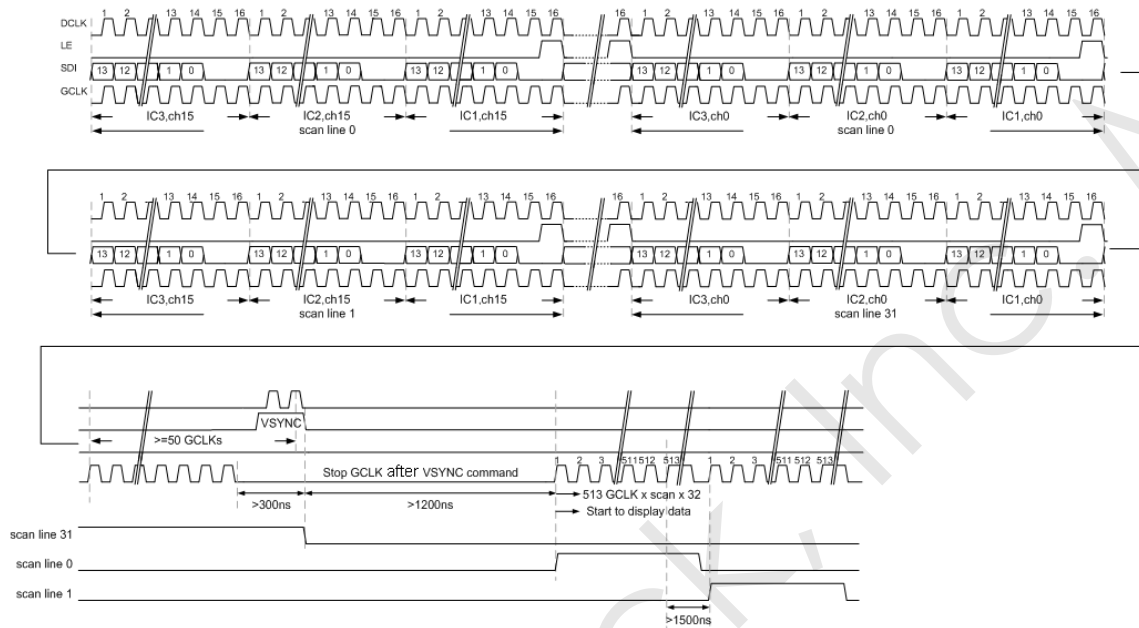
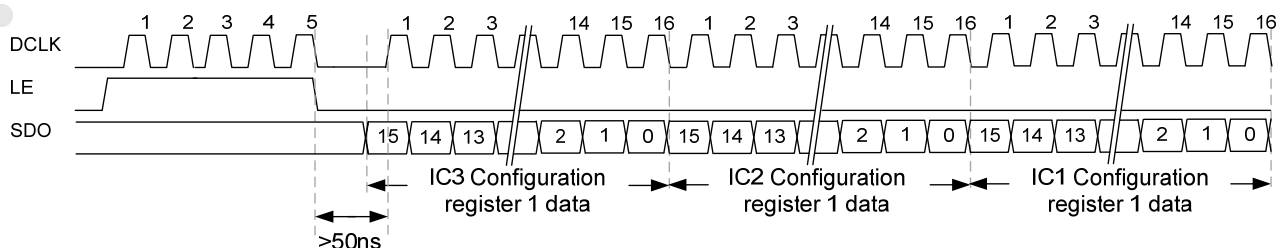

Figure 5. The timing diagram of 14-bit gray scale data
Figure 6. Example of reading configuration register 1 in 3pcs cascaded MBI5051
4. The data length of each channel is 16-bits, and the default PWM mode is 16-bits. The sequence of gray scale is bit15 → bit14 → ... → bit1 → bit0 as figure 5 shows. The 14-bits gray scale can be set through Bit[7]=1 in configuration register 1, and the sequence of gray scale data is bit15 → bit14 → ... → bit2 → 0 → 0, the last 2-bits (LSB) are set to "0", as figure 6 shows.
Figure 6 shows the example of reading configuration register 1 in 3pcs cascaded MBI5051.